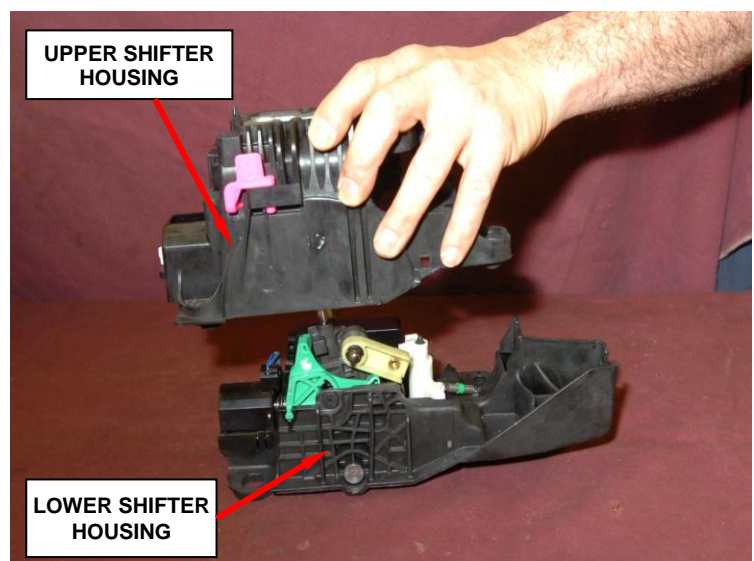

Figure 5 – Separate Upper Housing from Lower Housing
22. Finish separating the upper shift housing from the lower shift housing (Figure 5).
23. Disconnect the interlock lever return spring at the pivot arm (Figure 5).